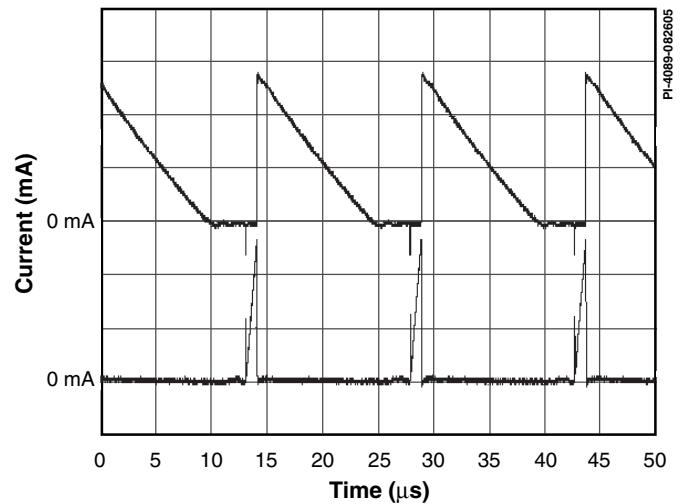

Figure 3. Output Current (Top Trace) and Input Current (Bottom Trace), 50 mA/div, 5 μ s/div.
- For better EMI performance, operate the circuit strictly in DCM (see Figure 3 – output current decays to zero in every switching cycle).